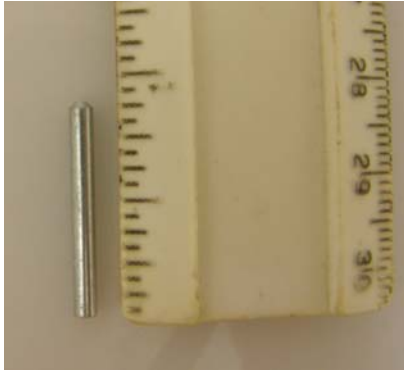

Figure 2a – Dollar Drive Shaft Pin
NOTE 1: If you cannot find the dollar drive shaft vertical pin (see Figure 2a), contact your local distributor for a replacement.
- 5.) Install the dollar drive shaft vertical pin (Figure 2a) by placing the pin in the hole on the dollar drive shaft gear (spacer can now be released). While holding the dollar drive shaft gear (Figure 2b), turn the cone gear back and forth until the vertical pin drops fully into place (downward pressure on the pin may be needed if there is dirt or grease built up inside the pinhole). Install the cotter pin above the spacer.